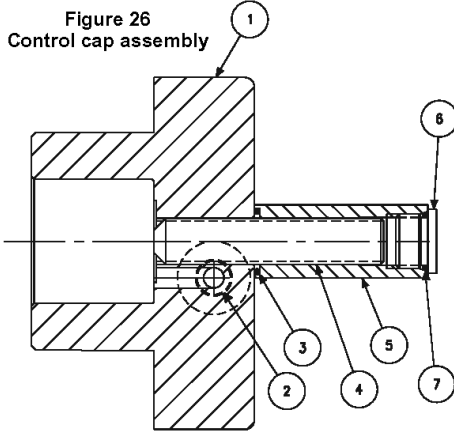

Figure 26
1. See Figure 26. Remove nut (5) and maximum volume screw (4).
PARTS LIST FOR FIGURE 26